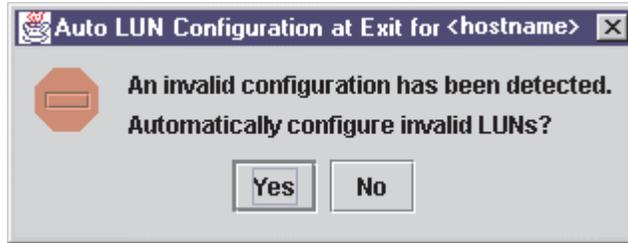

Figure 91. Auto LUN Configuration at Exit Dialog Window
4. Click **OK** to save the changes until you exit the Fibre Channel Port Configuration window; then, review the configuration changes (see Step 3). If FASiT MSJ detects an erroneous LUN configuration while saving the configuration, the Auto LUN Configuration at Exit for <hostname> window is displayed (see Figure 91 on page 210).